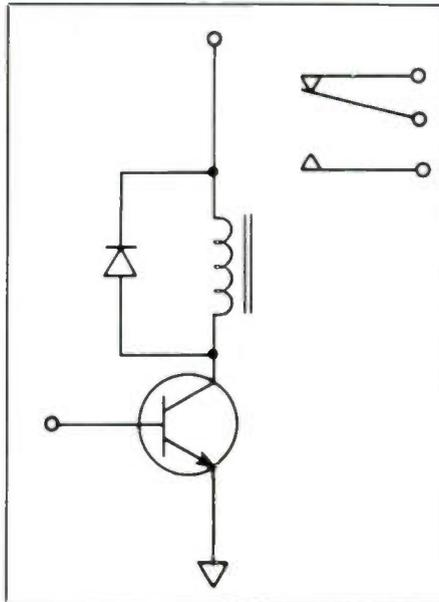

Figure 2.
9. A diode is sometimes connected across a relay coil to protect a transistor from inductive kickback. (See Figure 2.) Which of the following may be used instead of the diode?